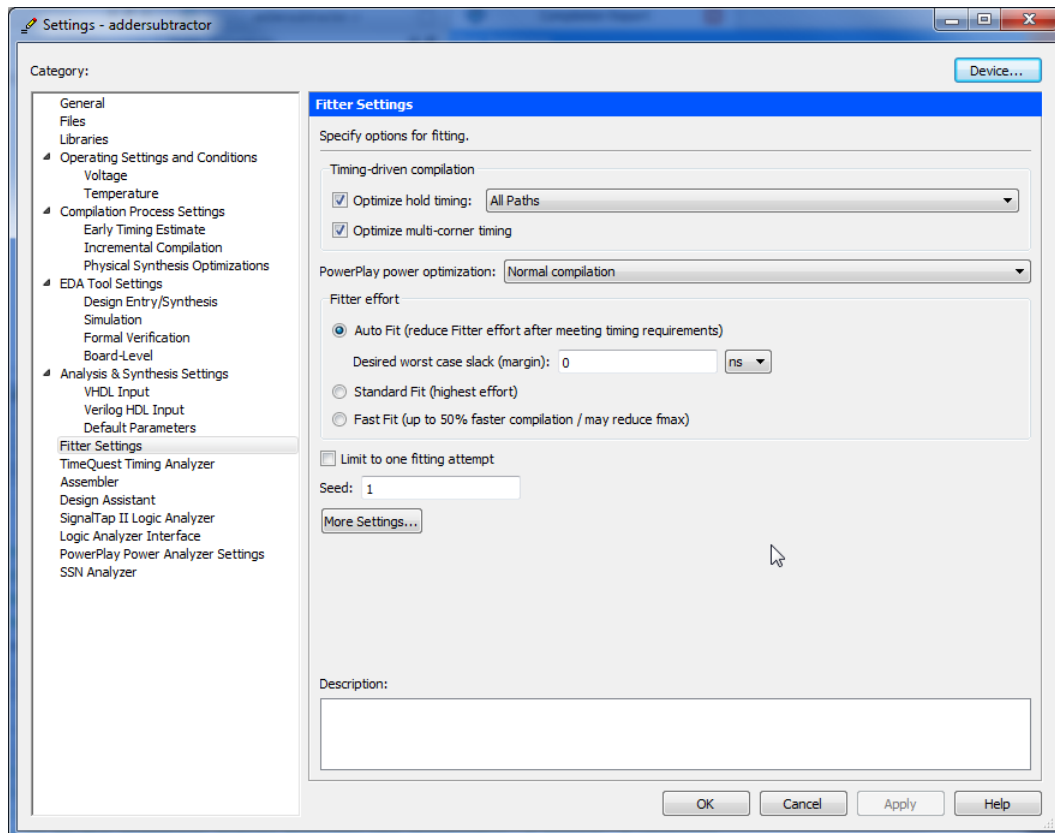

Figure 36: Fitter settings.
- From the main Quartus® II window, click **Assignments > Settings...** and then select the category **Fitter Settings** which opens the window in Figure 36. Three different levels of effort can be given. Choose the **Auto Fit** option, which instructs the Fitter to stop as soon as it finds an adequate implementation. The **Fast Fit** option reduces the compilation time, but it may produce a lower f_{max} . The third option, **Standard Fit**, forces the Fitter to produce the best implementation it can find; at this effort level the Fitter will exceed the user's timing requirements as much as it can, which often results in longer compilation time. Click **OK**, and recompile the circuit.